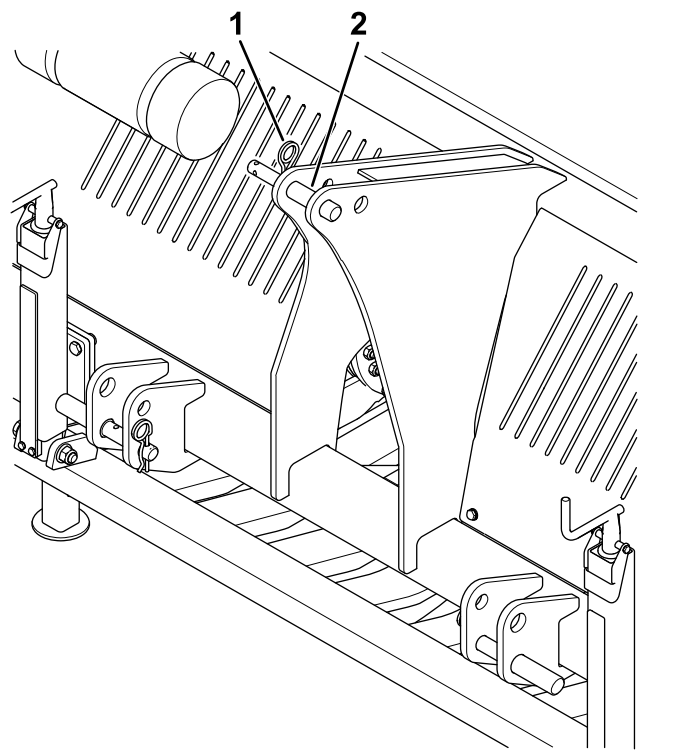

Figure 28
1. Hairpin cotter (3)
2. Hitch pin (3)
10. Install the hairpin cotters to the hitch pins (Figure 28).